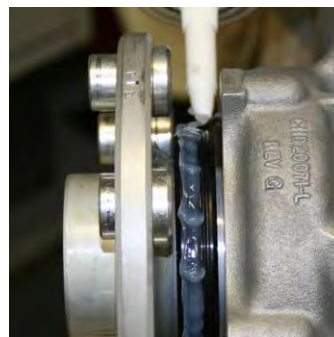

Figure 89
⚠ CAUTION: USE A BRUSH AND BUTYL RUBBER GLOVES WHEN APPLYING SEALANT AND INSTALLING THE OIL SEAL (FIGURES 89 AND 90).
- (4) Apply a liberal coating of Dow Corning® 737 Neutral Cure Sealant to the outside diameter of the oil seal (Figure 89) to allow the excess sealant to squeeze out between the crankcase and the oil seal when the oil seal is installed.
- (5) Press the solid-ring oil seal firmly against the seat in the crankcase bore. Apply pressure all around the seal until it is firmly seated in the bore.
- (5) Apply a liberal coating of Dow Corning® 737 Neutral Cure Sealant to the outside diameter of the split oil seal (Figure 89) to allow the excess sealant to squeeze out between the crankcase and the oil seal when the oil seal is installed.
- (6) Press the split oil seal firmly against the seat in the crankcase bore. Apply pressure all around the seal until it is firmly seated in the bore.